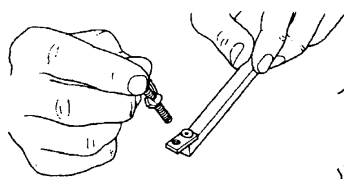

Fig. 3
4. Screw the center pin (4) in the pivot plate (5) with the point up, as shown in Fig. 3.